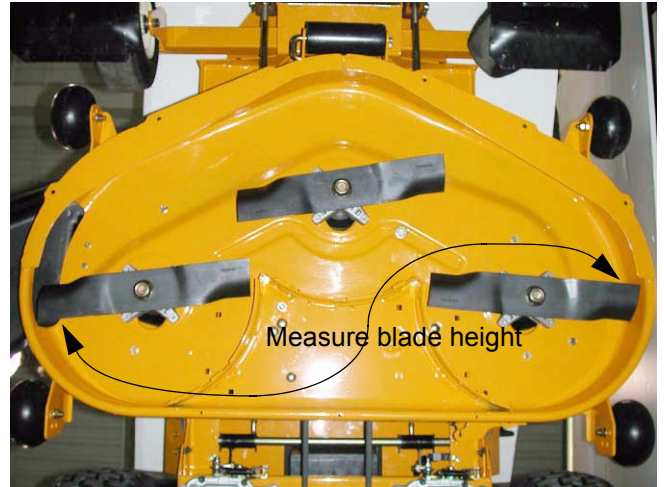

Figure 1.6
- 1.6. To make **side to side level adjustment** align blades across the width of the deck, perpendicular to with center line of the mower. See Figure 1.6.